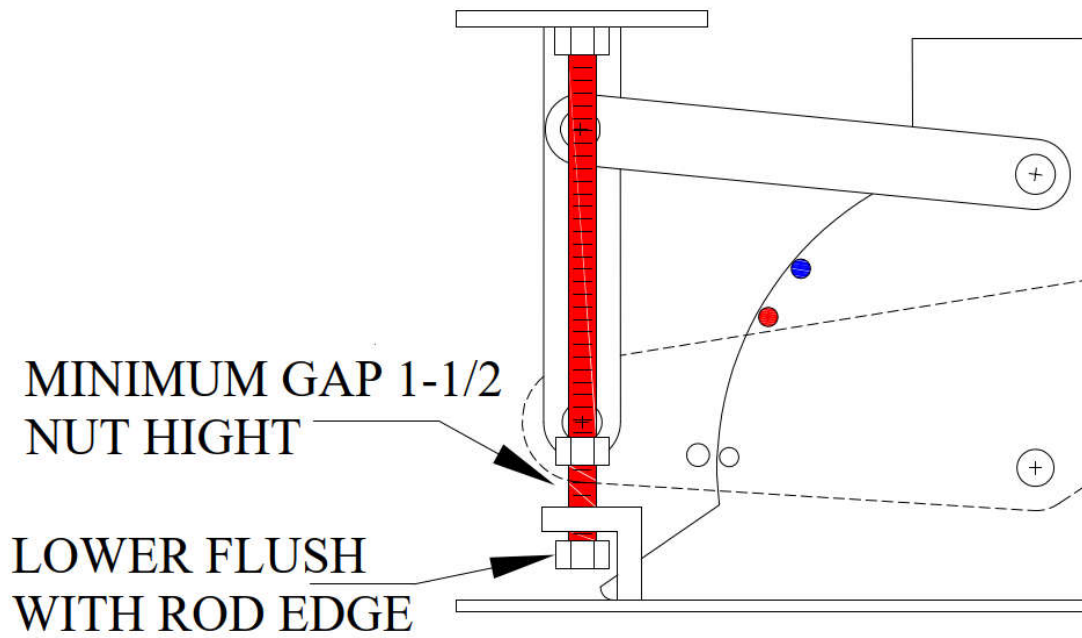

Figure 13: 100-F (Layout-B) Travel Stop Removal
4. The travel stop rods (painted red) should now be removed. Refer to figure 13 on page 11. Back down the 2 lower travel stop nuts flush to the bottom or the travel stop rods. Back up the 2 upper travel-stop nuts at least 1-1/2 times the nut thickness.
5. The hydro test blocks along with the travel stop rods (painted red) should now be removed. Remove the hydro test blocks by grinding-off the tack weld holding them and sliding them out. Refer to figure 13 on page 11, to remove the travel stop rods. Back down the 2 lower travel stop nuts flush to the bottom or the travel stop rods. Back up the 2 upper travel stop nuts at least 1-1/2 times the nut thickness.